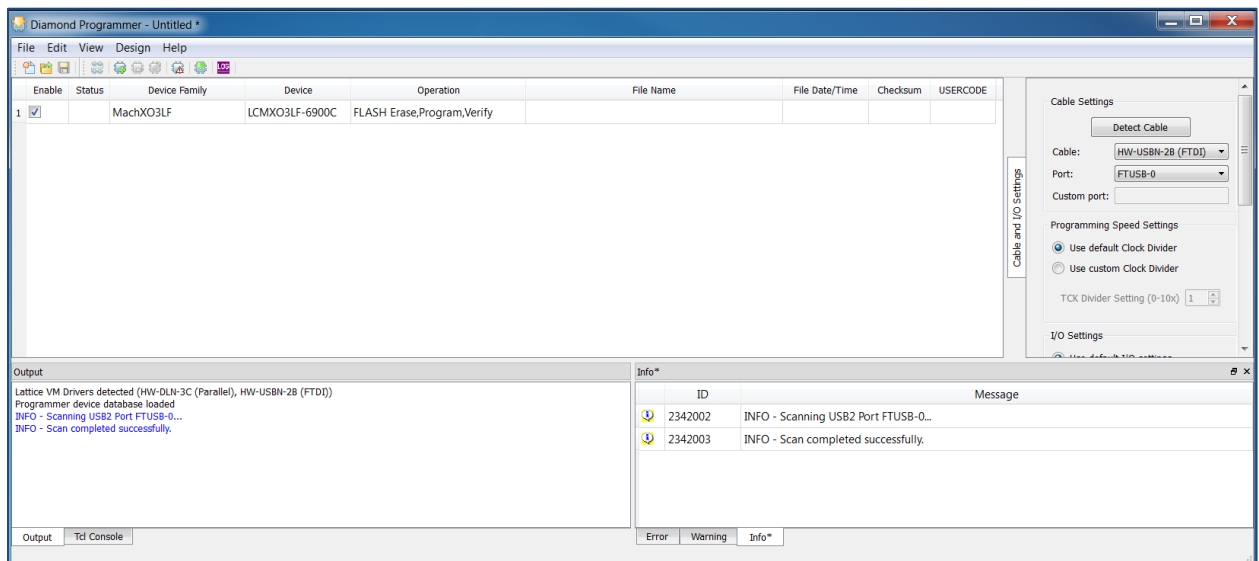

Figure 8.2. Selecting the Device
4. When the scanning of the device is completed, the device present on the board is detected as shown in Figure 8.2.